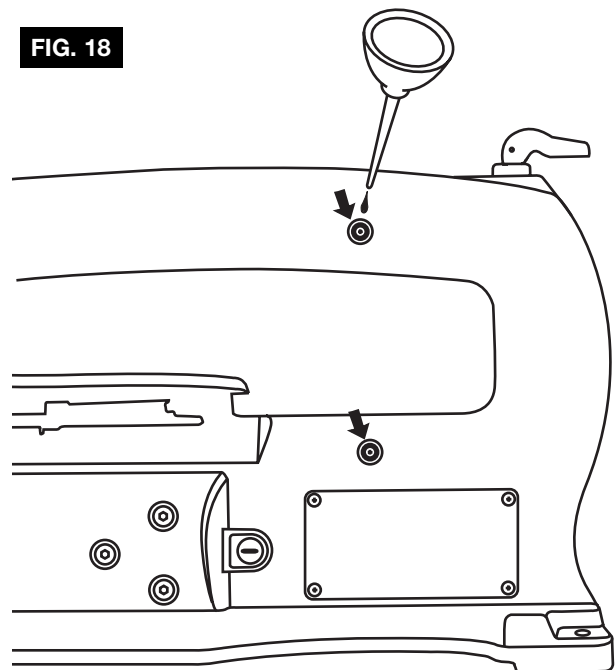

FIG. 18
1. Turn saw on its side (Fig. 18).